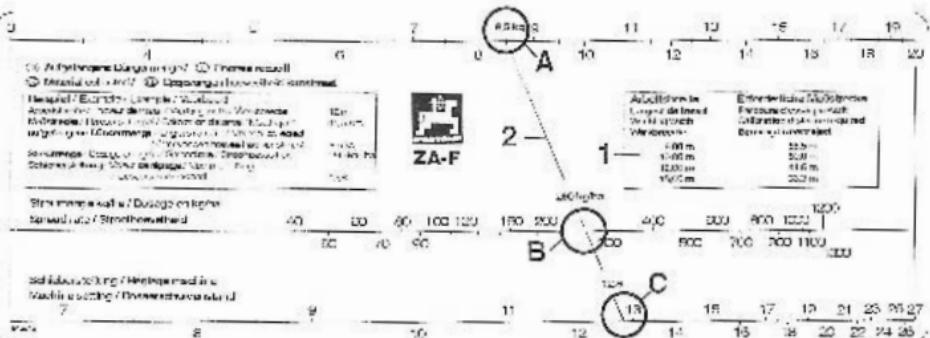

Fig. 10
- For the collected fertiliser amount (**8,5 kg**) look for the figure on the upper scale (**Fig. 10/A**) and for the desired spread rate (**260 kg/ha**) find the figure on the middle scale (**Fig. 10/B**). Now connect the two points by a straight line (**Fig. 10/2**) [e.g. by a rule, twine etc.], so that its downward extension shows on the lower scale (**Fig. 10/C**) the required shutter slide position „**12,8**“.